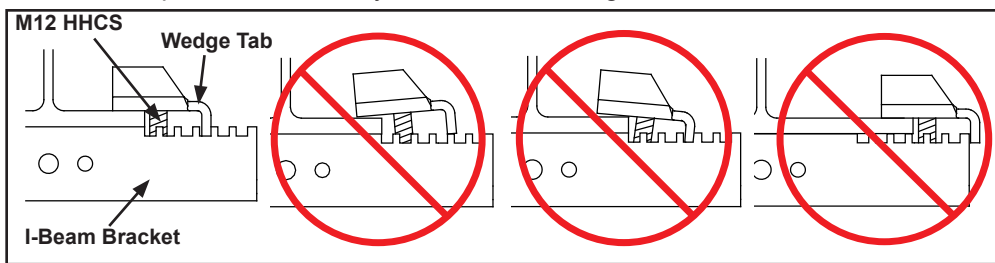

Figure 3-24A
- Step 5. Slide wedge tabs in toward web of beam until two (2) M12 x 100 mm HHCS contact I-Beam flange sides. See Figure 3-24A.